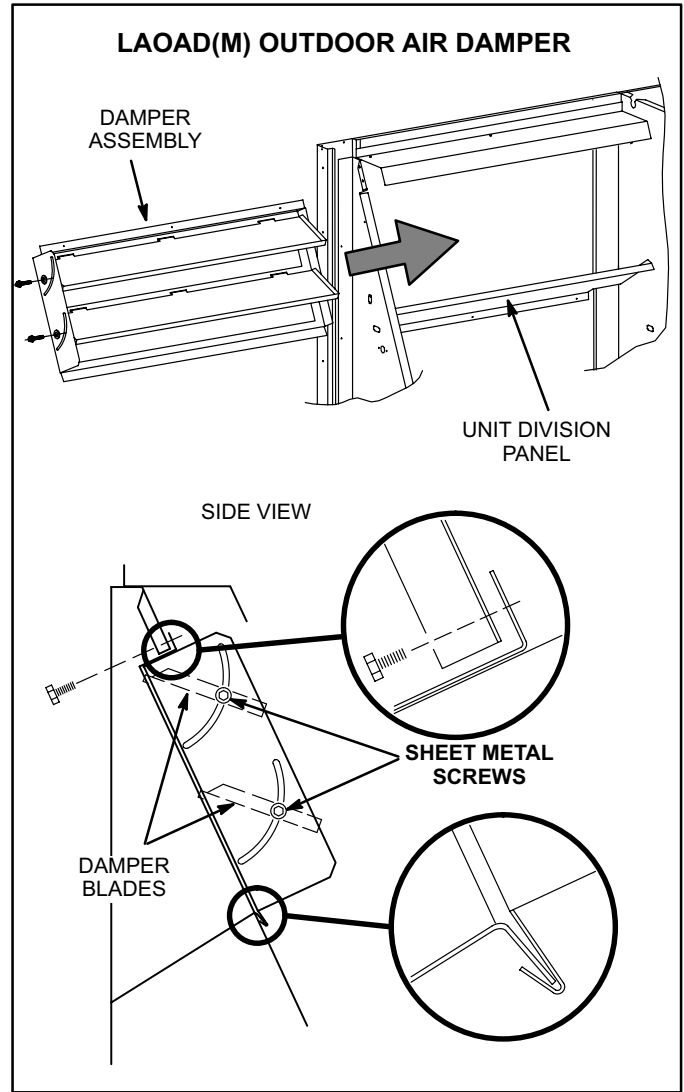

FIGURE 18
LAOAD(M)10/15 used on TCA090S/150 units consists of a set of dampers which may be manually or motor (M) operated to allow up to 25 percent outside air into the system at all times (see figure 18). Either air damper can be installed in TCA units. Washable filter supplied with the outdoor air dampers can be cleaned with water and a mild detergent. It should be sprayed with Filter Handicoater when dry prior to reinstallation. Filter Handicoater is R.P. Products coating no. 418 and is available as Lennox Part No. P-8-5069.